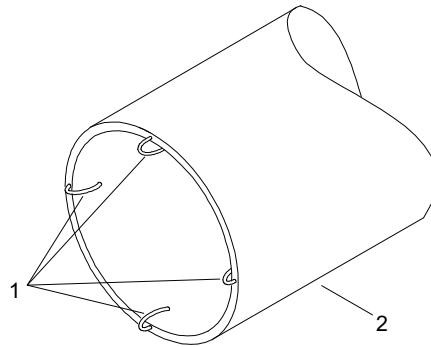

Figure 19. Hose Assembly Repair.
17. Using needles nose pliers, carefully bend the ground wire (Figure 19, Item 1) inside the hose assembly (Figure 19, Item 2).